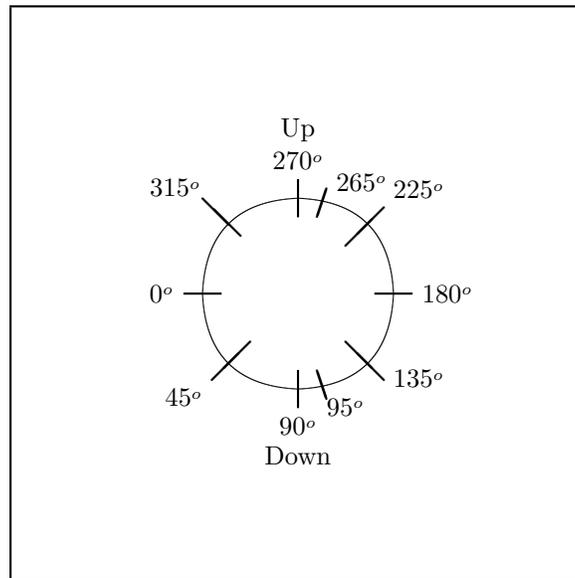

Figure 1: Pelco Tilt Protocol Readout Positions[intro:pelcotiltreadouts]
- 1.1.1. In Figure 1, page 23 are the absolute values that are read out as a camera is tilted.